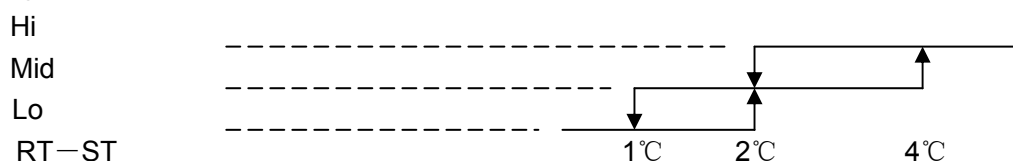

Figure 1 Cooling automatic airflow
- Indoor fan motor's the automatic airflow speed control Indoor fan motor can operate by automatic, as shown in Figure 1: